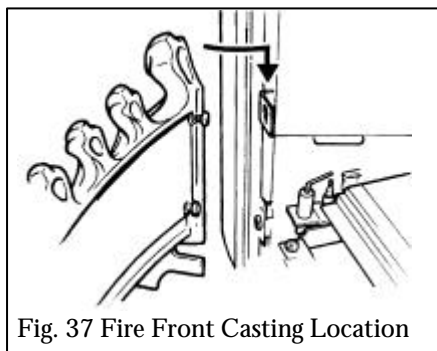

Fig. 37 Fire Front Casting Location
Fit the fire front casting to the front surround. Locate the two screw heads at the rear top corners of the casting through the keyhole slots at the inner sides of the surround. If the screw heads do not project enough or project too far, the screws can be adjusted. Lower the casting so that it rests on the hearth (see figure 37). Place the bottom front cover casting in position below the fire front casting.
14.3.2 Lift the fire front casting up and forward to release the locating screw heads at the back of the casting from the keyholes in the surround sides (See fig. 37). Lift the casting clear.